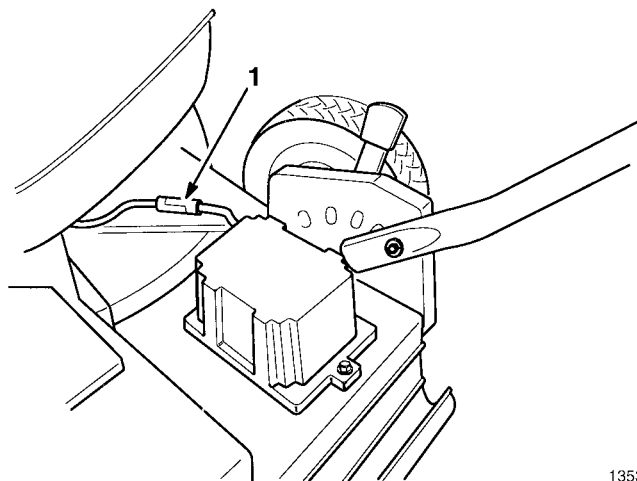

Figure 40
2. Disconnect leads connecting starter motor to battery (Fig. 40).